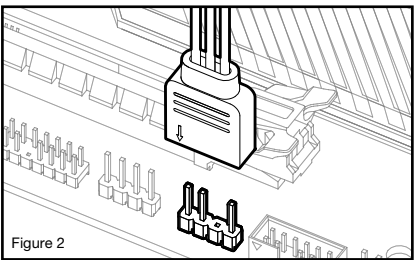

Figure 2
2. Connect the RGB ADAPTER CABLE female connector into the Digital RGB header on the motherboard. Make sure the arrow on the RGB ADAPTER CABLE is plugged into +5V on the motherboard (Figure 2).
2. 将RGB适配线缆的母头连接到主板上的数字RGB接头。确保RGB适配线缆上的箭头插入主板上的+5V(图2)。